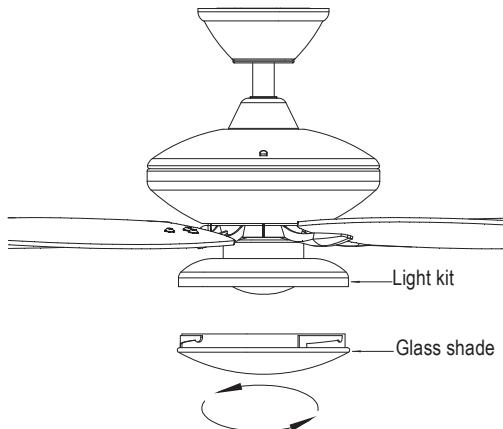

Fig. 17
**Step 1.** Raise the glass shade against the light kit and turn clockwise until snug, DO NOT OVERTIGHTEN. (Fig. 17)
Cool weather - Reverse (clockwise) An upward airflow moves warm air off the ceiling area as shown in Fig. 17. This allows you to set your heating unit on a cooler setting without affecting your comfort.